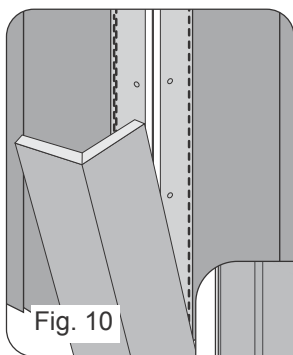

Fig. 10
- In situations where it is not possible to place the nail in the center of the nailing slot (foam sheathing, etc.) it is permissible to remove the material in between two slots to allow for more room for expansion and contraction (Fig. 10).
- Celect fixture mounts are available for obstructions such as lighting, dryer vents, water faucets, etc. Begin by installing the base "ring." Install the siding panels allowing for the appropriate expansion gap depending upon the length of the siding course. Center and secure the face plate with two Celect Cortex trim screws and plugs (Fig. 10).